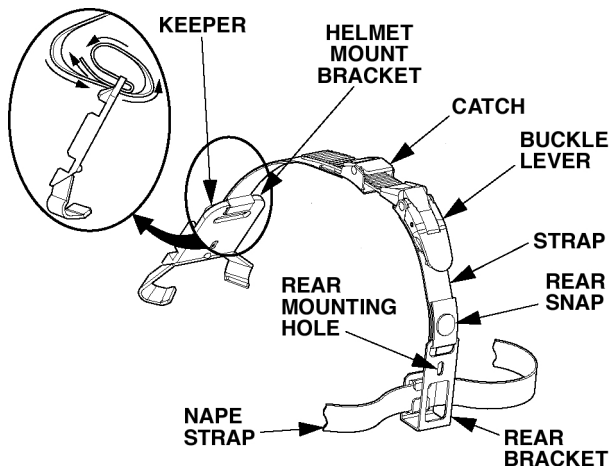
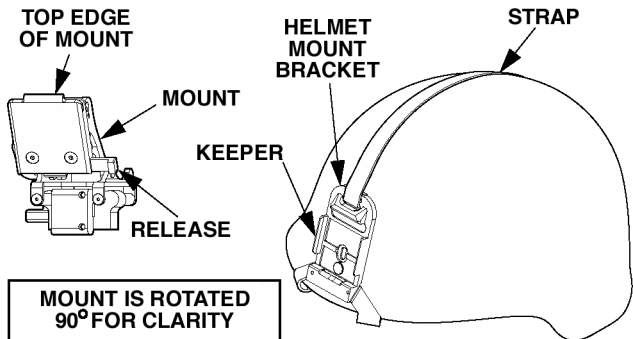
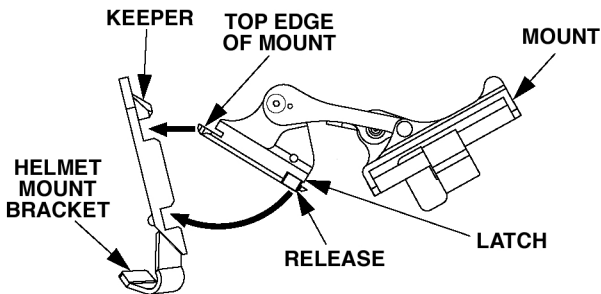
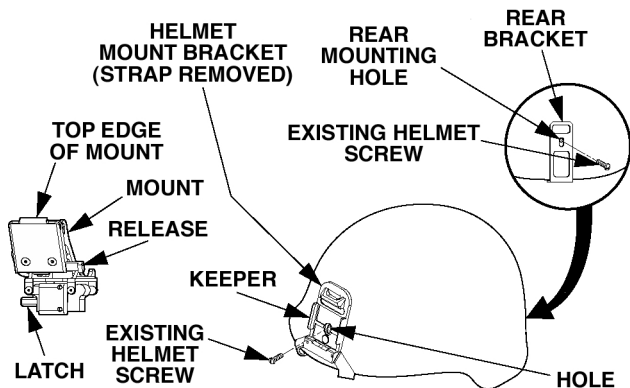

Figure 2-12. Installation of Helmet Mount.
Figure 2-13. Helmet Mount.
Figure 2-14. Reassembly of Helmet Mount.
Figure 2-15. Helmet Mount.
(1) Remove the helmet mount from the carrying case. Refer to Figure 2-12 for helmet mount features.
(2) Press the release (Figure 2-13) to remove the mount from the helmet mount bracket.
(3) Make sure the strap is laced onto the helmet mount bracket as shown in Figure 2-12.
(4) With catch (see Figure 2-12) in forward most position, place the strap over the top of the helmet center (see Figure 2-13).
(5) Hook the rear bracket (see Figure 2-12) on the center of the back of the helmet and lay the strap with helmet mount bracket over the top of the helmet.
(6) Hook the helmet mount bracket in the center of the front lip of the helmet and hold it in place (see Figure 2-13).
(7) With the buckle lever open, take up the slack in the strap using the catch. Close the buckle lever.
(8) Disengage the nape strap latch on the left side of nape strap.
(9) Don the helmet. Do not fasten the helmet chinstrap.
(10) Engage the nape strap at the nape strap latch. Tension the nape strap for a stable fit, then install and tension the helmet chinstrap. The brow of the helmet should be parallel to the ground and the helmet stable on the head.
(11) Insert the top edge of the mount under the keeper on the helmet mount bracket and rotate downward until the latch engages (see Figure 2-14). To release the mount from the helmet bracket, press the release and pull forward and down.
Refer to Figures 2-14 and 2-15 for reference and definition of terms.
(4) Find the screw located in the front, center of the helmet. Using a flat tip screwdriver, remove the screw. Hook the helmet mount bracket on the front of the helmet and center it over the hole where the screw was removed.
(5) Insert the screw removed in step 4 through the hole in the helmet mount bracket and through the helmet (see Figure 2-15).
(6) Align the nut on the helmet's interior strapping to the hole and tighten the screw with a flat tip screwdriver.
(7) Attach the mount to the helmet mount bracket. Insert the top edge of the mount under the keeper on the helmet mount bracket and rotate downward until the latch engages (see Figure 2-14). To release the mount from the helmet bracket, press the release.
(8) Find the screw located in the lower rear, center of the helmet. Using a flat tip screwdriver, remove the screw. Hook the rear bracket on the lower rear of the helmet and center it over the hole where the screw was removed.
(9) Insert the screw removed in step 8 through the hole on the rear bracket and through the helmet.
(10) Align the nut to the hole and tighten the screw with the flat tip screwdriver.
(11) Disengage the nape strap latch on left side of nape strap.
(12) Don the helmet. Do not fasten the helmet chinstrap.
(13) Engage the nape strap at the nape strap latch. Tension the nape strap for a stable fit, then install and tension the helmet chinstrap. The brow of the helmet should be parallel to the ground and the helmet stable on the head.
(14) Insert the top edge of the mount under the keeper on the helmet mount bracket and rotate downward until the latch engages. To release the mount from the helmet bracket, press the release and pull forward and down.